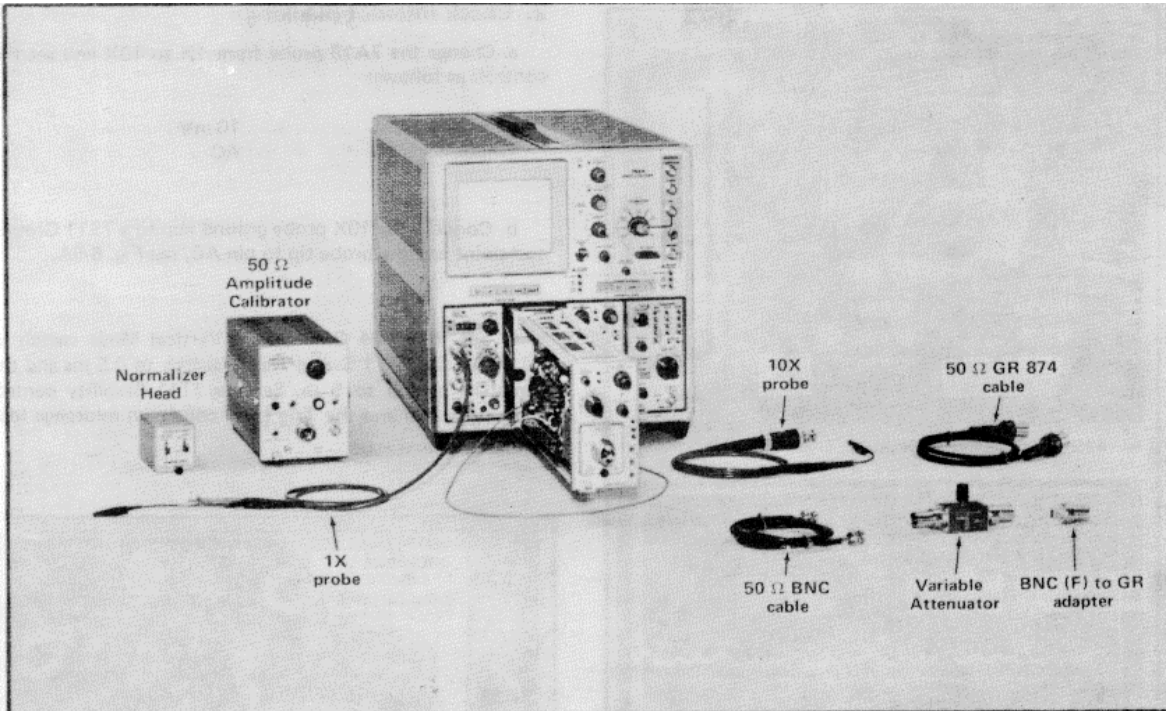

Fig. 6-3. Test equipment required.
a. Test equipment required is shown in Fig. 6-3. Set the 7504 Oscilloscope Vertical Mode switch to Left and Horizontal Mode switch to B.